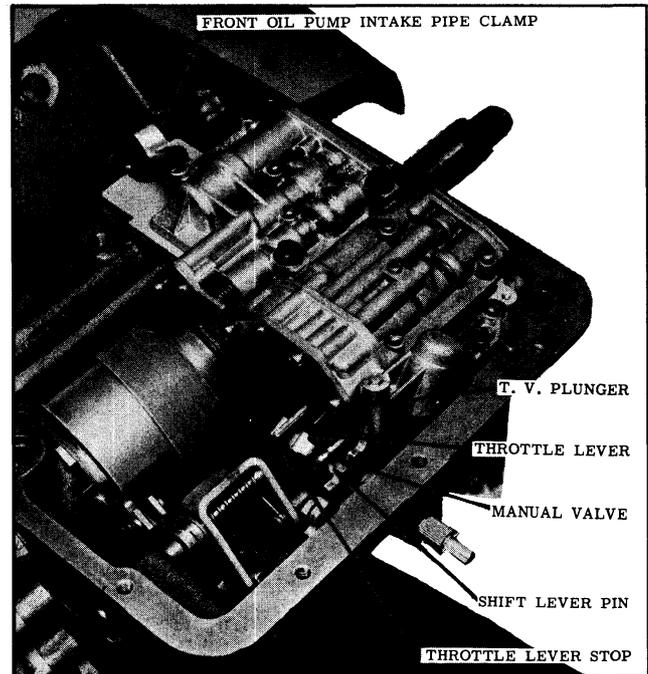

Fig. 3-147 Main Oil Control Valve Body Installation
- the T.V. plunger and the stop, and the shift lever pin engaged with the manual valve. (See Fig. 3-147)